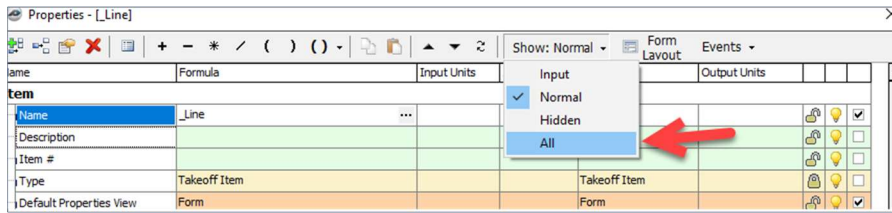

Figure 13
13. Note that the Show mode you are currently in is "Normal." Click on the **All** selection from the **Show:** drop-down menu (Figure 13).